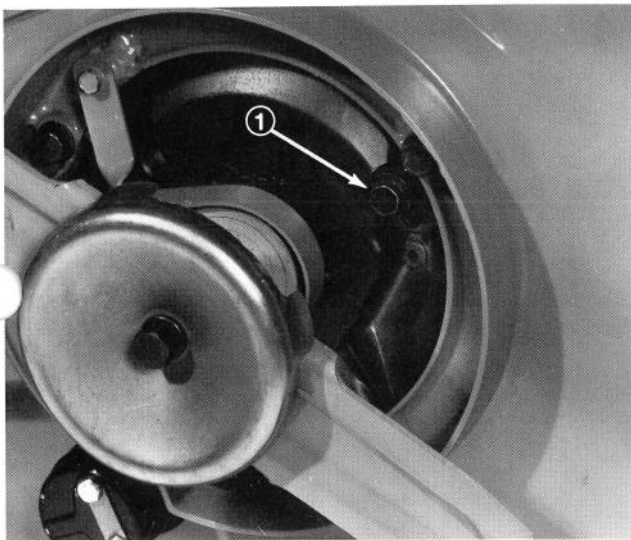

Figure 30
3. Remove drain plug (Fig. 30) and tip mower back to normal position to drain oil.